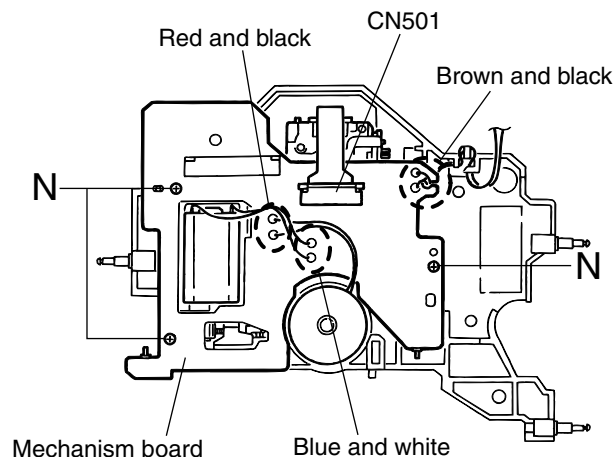

Fig. 23
■ **Removing the mechanism board / pickup assembly (See Fig.23 to 26)**